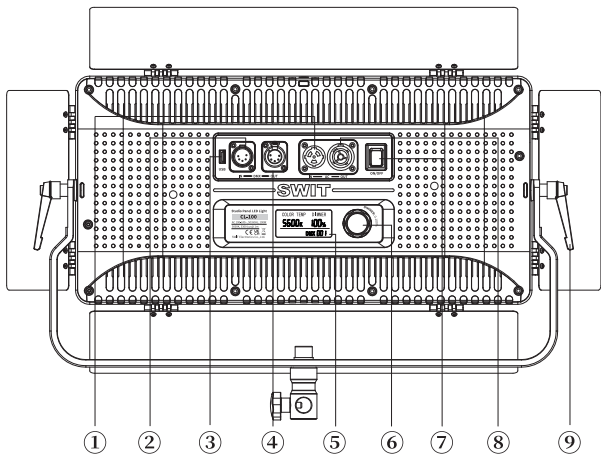

Fig.4 CL-100 Back View
Long press the brightness adjusting knob (Fig.4 ⑥) for 2s to enter in communication address setting interface, communication address range: 001-512.
LCD digital tube field flashing indicates that the current bit is selected, rotate the brightness adjustment knob (Fig.4 ⑥) to set the current bit, press the brightness adjustment knob (Fig.4 ⑥) to determine the setting of the current bit and go to the next bit, when the setting of the last bit is completed, press the brightness adjustment knob (Fig.4 ⑥) or wait for about 5s, to exit the setting of the communication address.